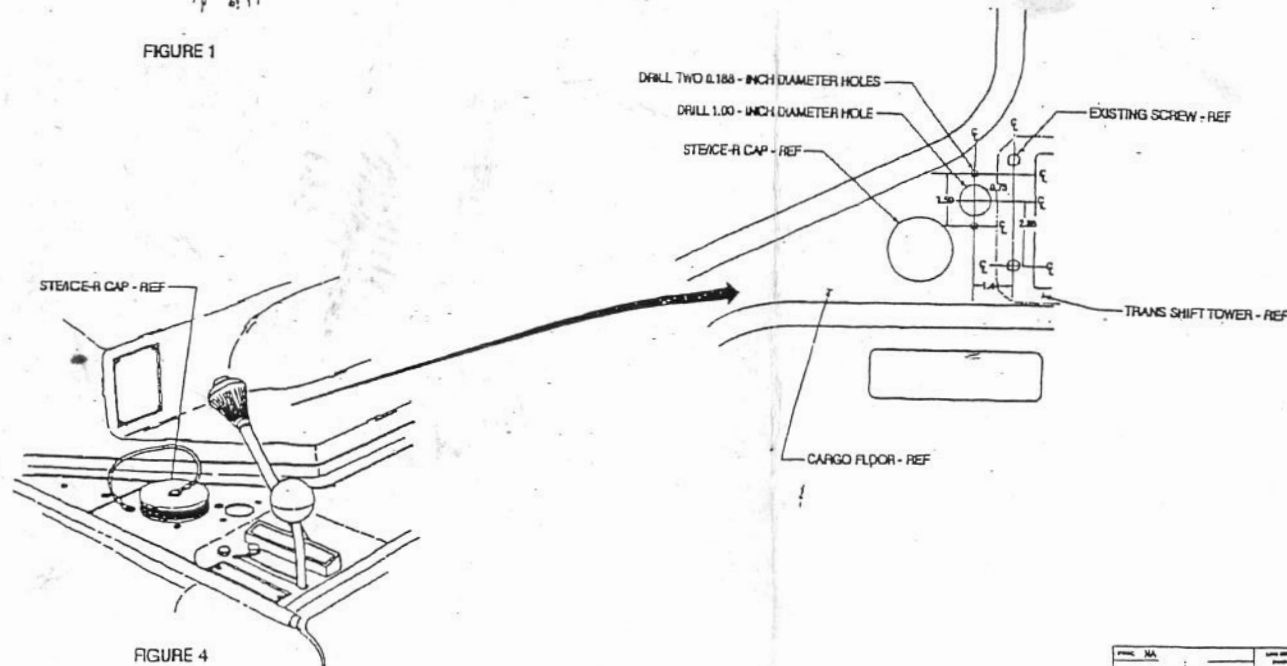

FIGURE 4
- I. USING TWO EXISTING SCREWS ON TRANS SHIFT TOWER, LOCATE, MARK, AND DRILL 1.00-INCH DIAMETER HOLE IN CARGO FLOOR AS SHOWN IN FIGURE 4.
- J. USING HOLE DRILLED IN STEP "I" AS A REFERENCE, LOCATE, MARK, AND DRILL TWO 0.188-INCH DIAMETER HOLES IN CARGO FLOOR AS SHOWN IN FIGURE 4.